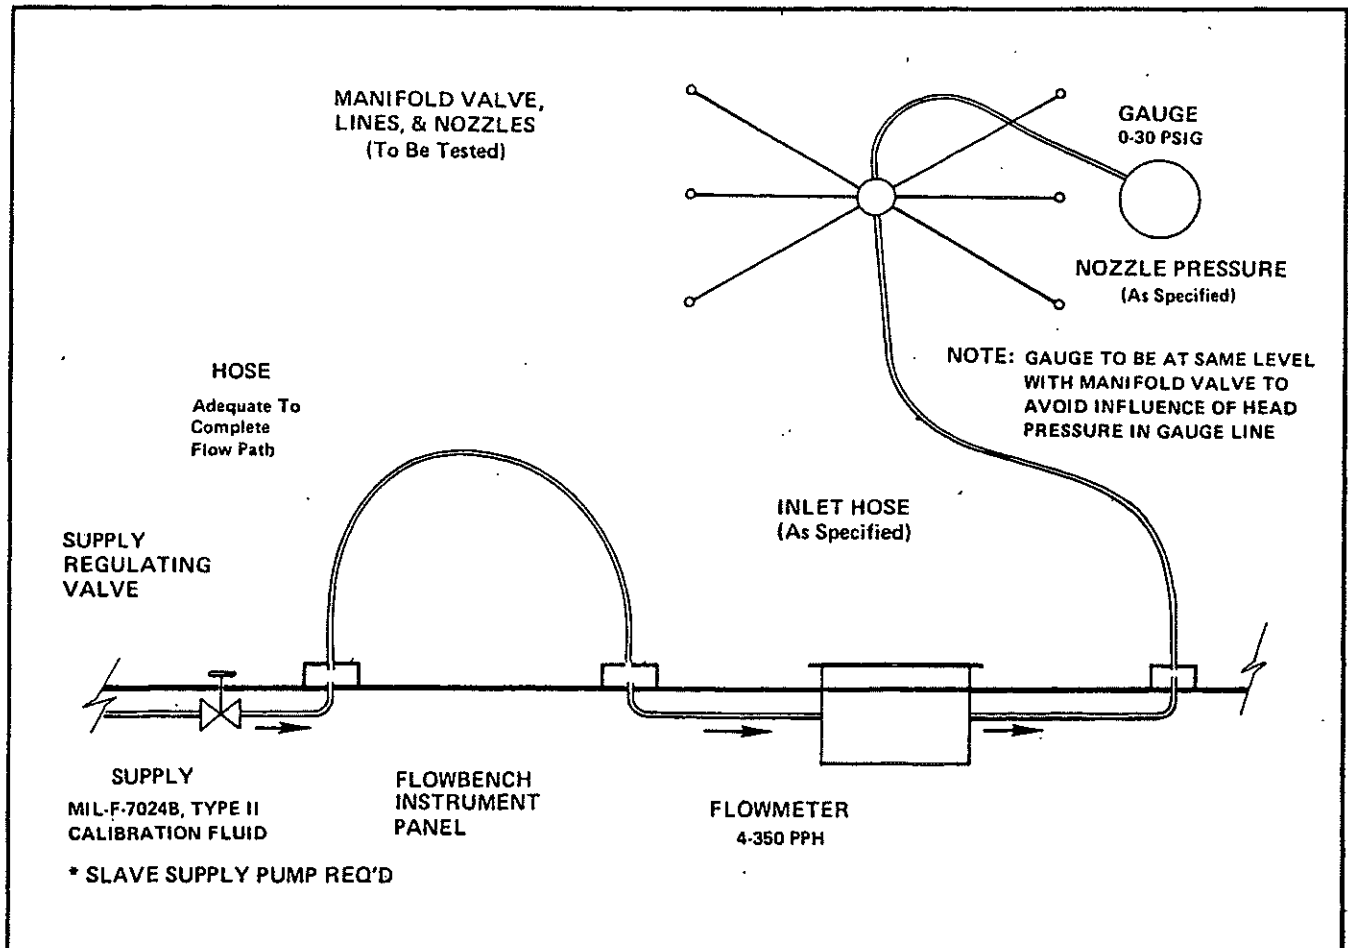

FIGURE 70-05. FLOW STAND SCHEMATIC.
- A. Install the control unit to be tested on the flow bench in accordance with the schematic shown in Figure 70-05.
05-03. NOZZLE ASSEMBLY FLOW TEST PROCEDURE (Figure 70-05).